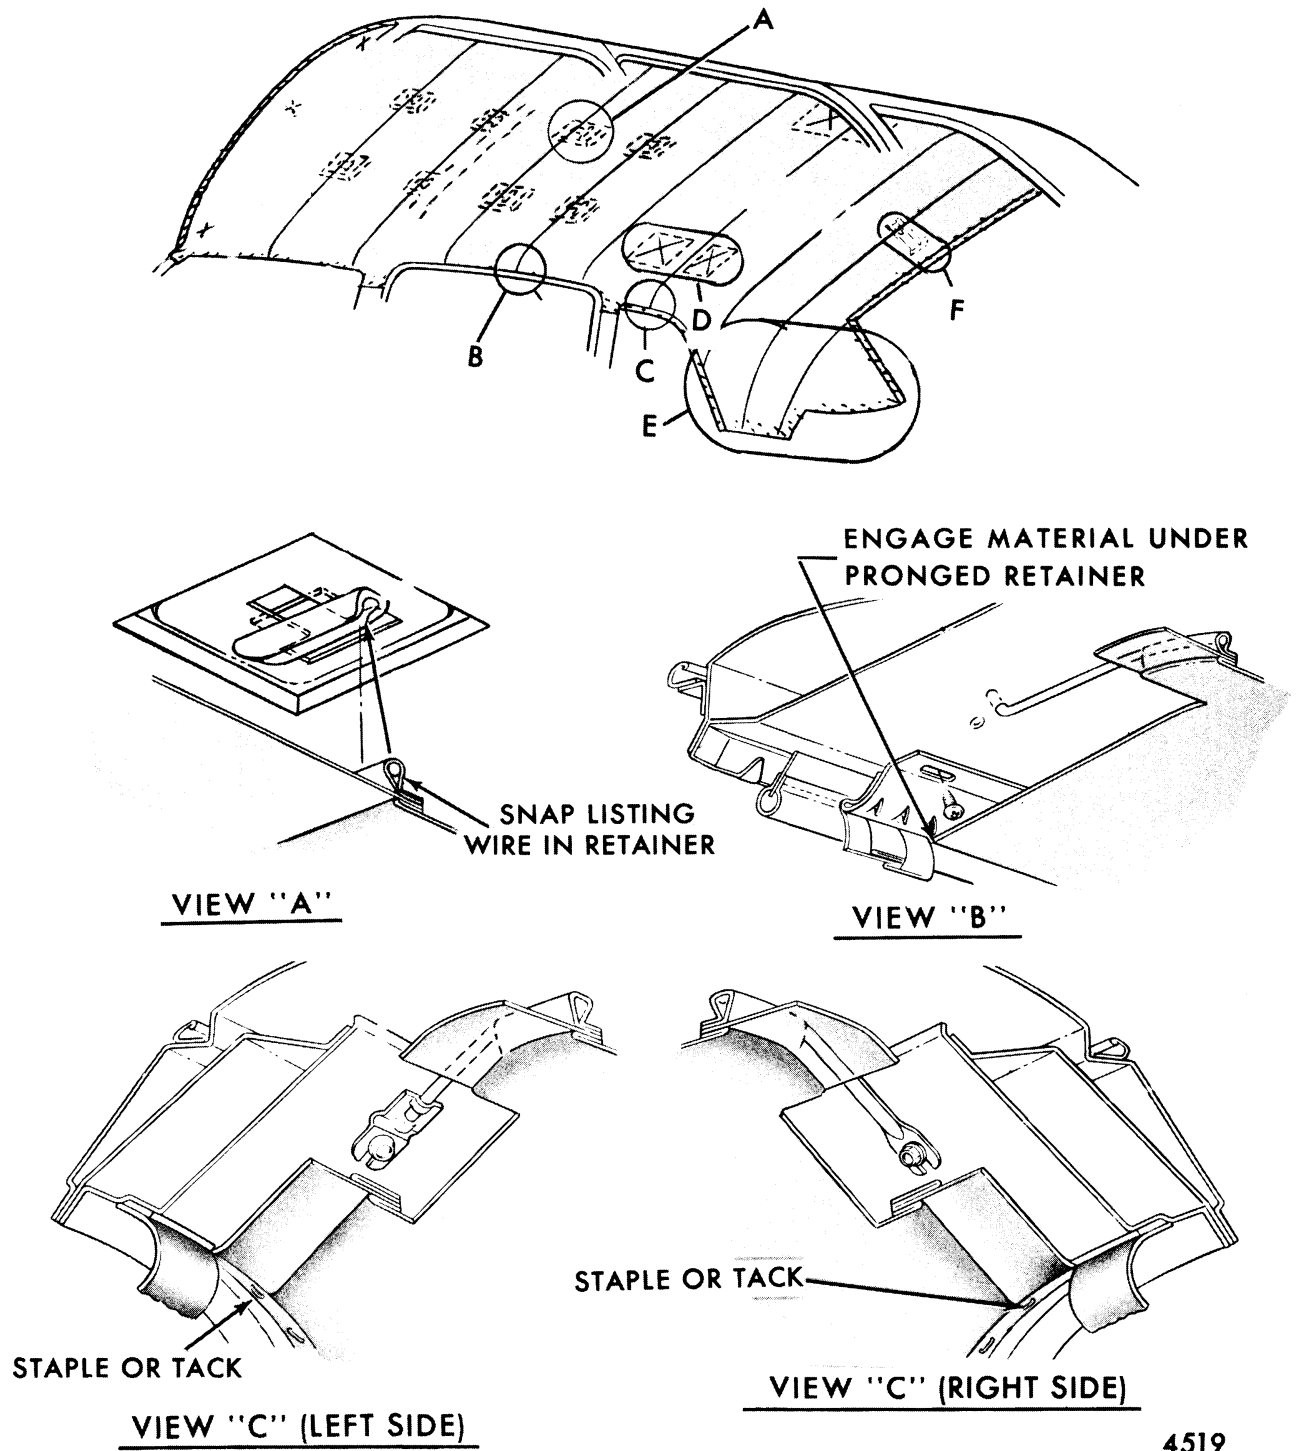

Fig. 8-4-Headlining Installation - "D" Body Styles
4. Use headlining inserting tool J-2272 (or equivalent) or similar wide-bladed tool and carefully disengage headlining from pronged retainers where present (see Fig. 8-4, View "B").
6. Starting at front of body, carefully disengage No. 1 and No. 2 listing wires from side roof inner rails and from plastic supporting clips on roof bows (see Fig. 8-4, View "A"). In like manner, working from rear of body, disengage listing wires from side roof rails and tabs above back window.
4. Working rearward from No. 3 listing wire, install listing wires in side roof rails and snap listing wires into plastic retainers on roof bows. Hook rear listing wire over tabs at back window and bend upward to secure. Working forward, install remaining listing wires (see Fig. 8-4, View "A").
**NOTE:** Listing wires may be adjusted up or down by utilizing appropriate holes in side roof rails. Listing wires should rest tight against roof panel after installation (see Fig. 8-4, View "B").